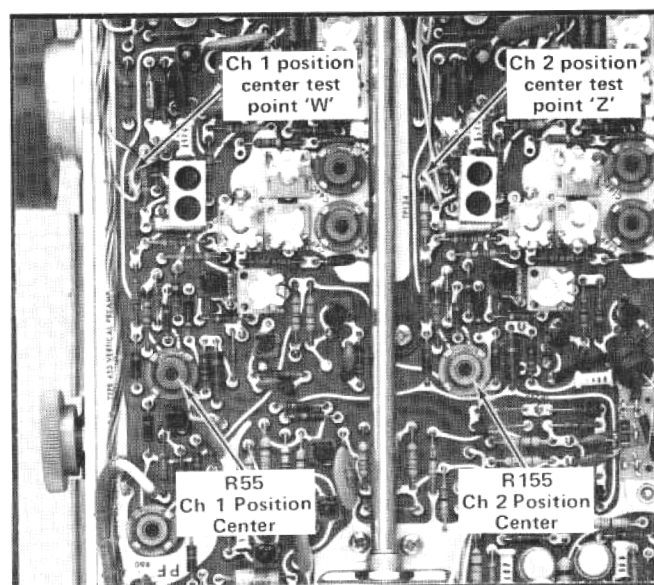

Fig. 5-8. Location of position center test points and adjustments (Vertical Preamp board).
a. Connect the DC voltmeter between pin connector "Z" on the Vertical Preamp board (see Fig. 5-8) and chassis ground.
d. ADJUST—CH 2 Position Center adjustment R155 (see Fig. 5-8) to position the trace to the center line.
f. Connect the DC voltmeter between pin connector "W" on the Vertical Preamp board (see Fig. 5-8) and chassis ground.
i. ADJUST—CH 1 Position Center adjustment R55 (see Fig. 5-8) to position the trace to the center line.